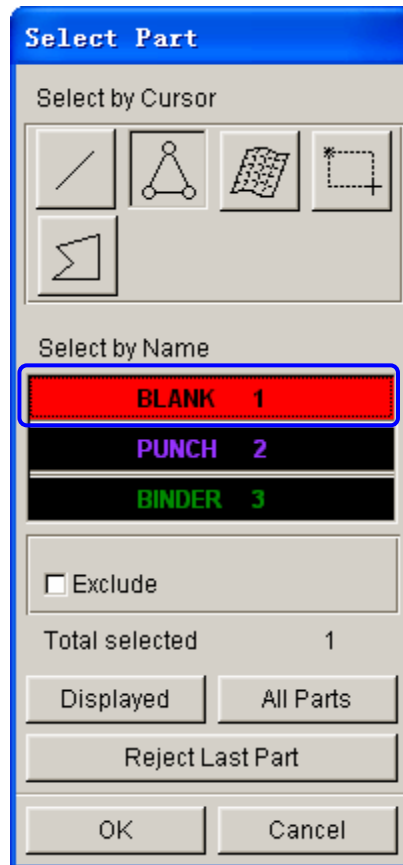

Figure 7.8 Select part dialog box
4. Click **Add Part...** button. Use your mouse cursor to select **BLANK** part from the SELECT PART dialog box illustrated in Figure 7.8.